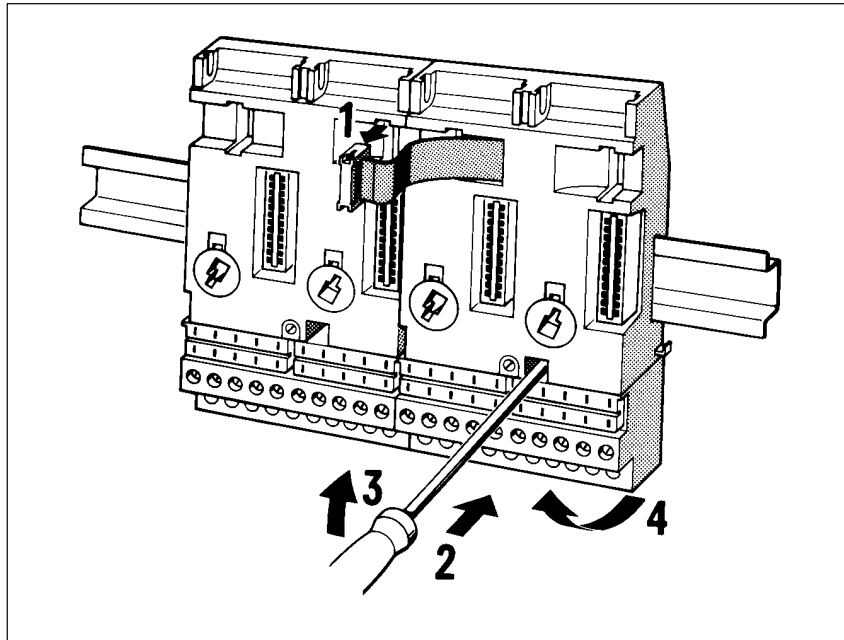

Figure 3-5 Removing Bus Units from a Standard Mounting Rail
2. Disconnect the ribbon cable of each bus unit from its neighboring bus unit or from the ET 200U interface module (see **1** in Figure 3-5).